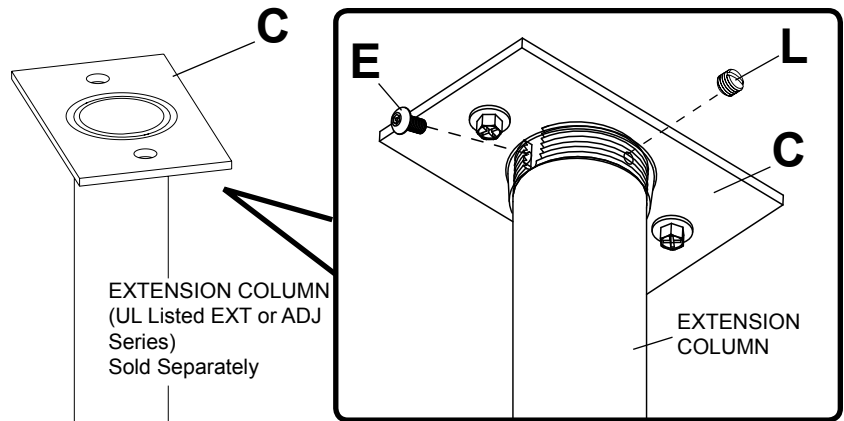

figure 4.1
- 4** Screw extension column to ceiling plate (**C**). Align the notch with one of the four holes in the ceiling plate (**C**) and secure extension column with a M5 x 10 mm socket pin screw (**E**) using security allen wrench (**U**). See **figure 4.1**